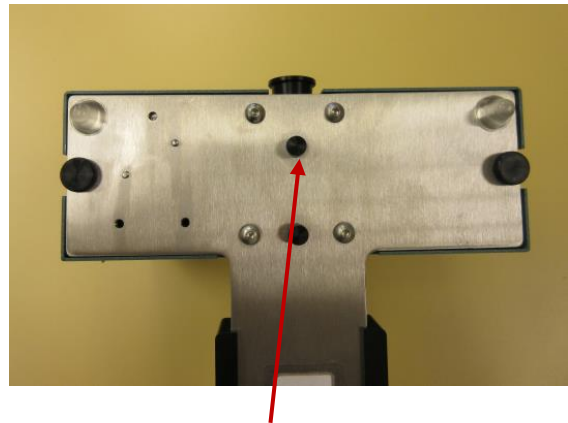

Figure 3.1.4 Bushing (inlet) set screw
- Loosen the inlet bushing set screw and remove bushing from cutter. *Figure 3.1.4*